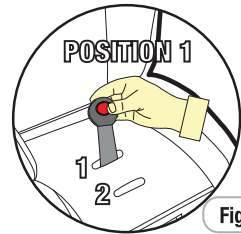

Figure 1
- Step 1:** Lift the buckle and determine whether POSITION 1 (new born) or POSITION 2 (larger child), so it's more appropriate for your baby. (refer Figure 1).